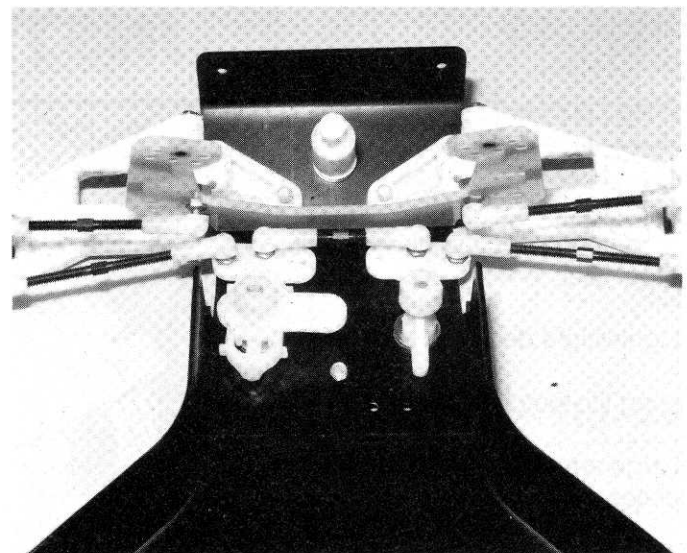

Fig. 25
- Fig. 25** Place the servo saver onto the 2 screws, as shown. Take the 2 nylon nuts and screw them down until the servo saver starts to tighten, then back the nuts off about 1/2 turn until the servo saver arms pivot freely.